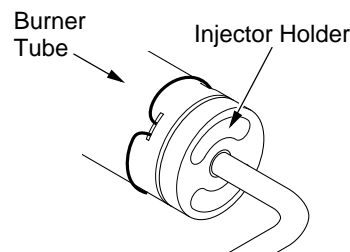

Figure 57 - Injector Holder On Outlet Burner Tube
2. Inspect burner, pilot, and primary air inlet holes on injector holder for dust and dirt (see Figure 57).